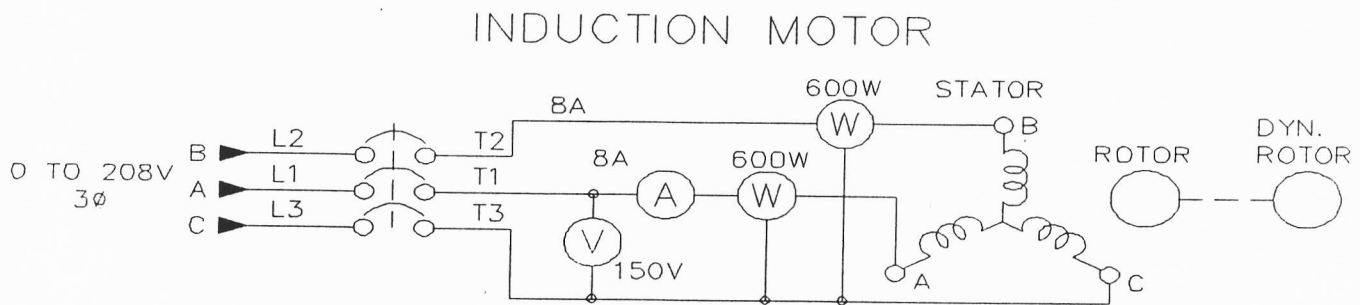

Figure 13-1
- Step 2. Connect the Induction Motor, IM-100, as shown in Figure 13-1. Be careful to observe polarity when connecting wattmeters. The "two-wattmeter method" of measuring total power is being used.